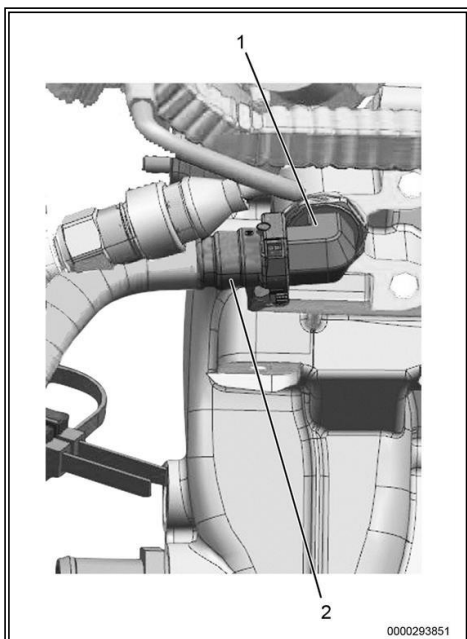

Figure 23: Coolant Deaeration Tank Supply Hose.
2. Remove DEF coolant supply hose (Figure 23, Item 2).
3. Remove 90-degree elbow fitting (Figure 23, Item 1).